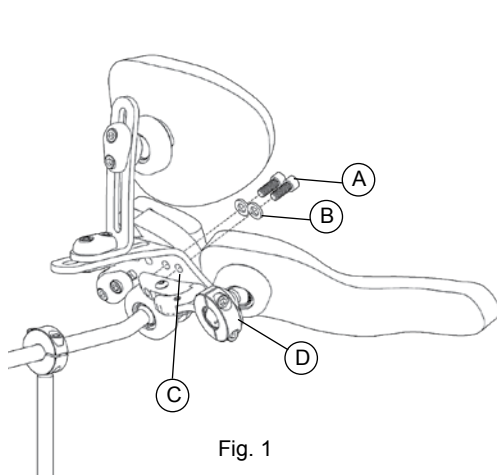

Fig. 1
1. Attach swingaway lateral bracket(s) (Fig. 1, D) to PLUSH lateral support interface plate (Fig. 1, C) using bolts (Fig. 1, A) and washers (Fig. 1, B).
1. Attach swingaway lateral bracket(s) (Fig. 1, D) to S.O.F.T. base plate assembly (Fig. 1, C) using bolts (Fig. 1, A) and washers (Fig. 1, B). Tighten bolts securely.